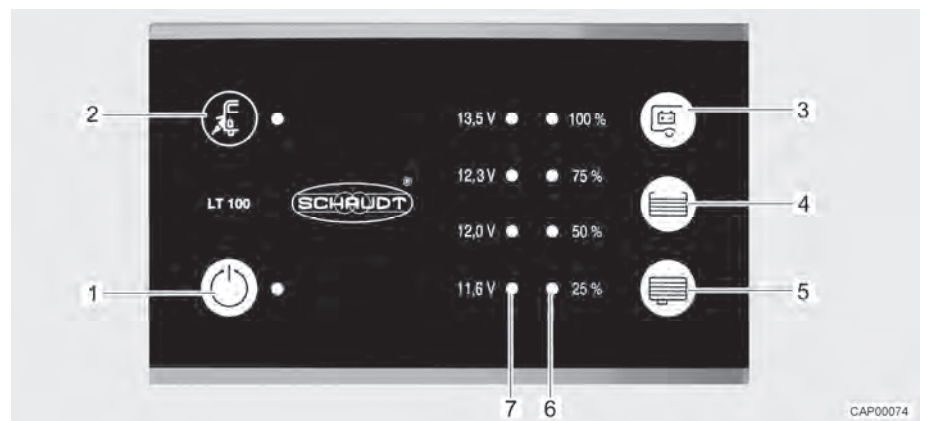

Fig. 97 Panel (LT 100)
The yellow LED at the mains connection symbol " (Fig. 97,2) is lit when the vehicle is connected to an external mains supply. In this case, the LED will also be lit when the panel is switched off.
The 12 V main switch (Fig. 97,1) switches the panel and the 12 V power supply of the living area on and off.
- Press switch " (Fig. 97,1): The 12 V living area power supply is switched on. The LED lights up green.
- Press switch " (Fig. 97,1) again: The 12 V living area power supply is switched off. The LED goes out.
The LED array (Fig. 97,7) displays the battery voltage of the living area battery as follows:
- Press the button " (Fig. 97,3): the battery voltage of the living area battery is displayed.
The LED array (Fig. 97,6) displays the fill level of the fresh water tank or of the waste water tank.
*Display fill level:* Press the button " (Fig. 97,4): The fill level of the fresh water tank is displayed by lit LEDs.
Press the button " (Fig. 97,5): The fill level of the waste water tank is displayed by lit LEDs.